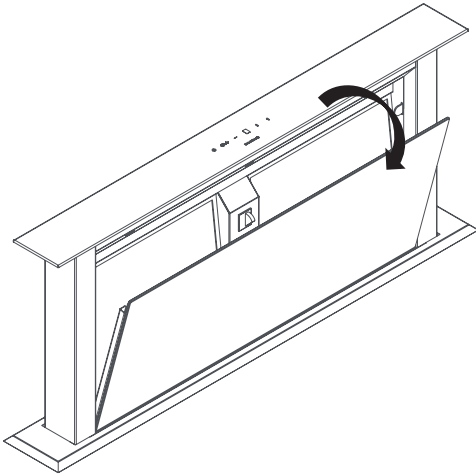

Fig. 10
1. ➔ ■ Open side suction glass on the direction of the arrow (Fig. 10).